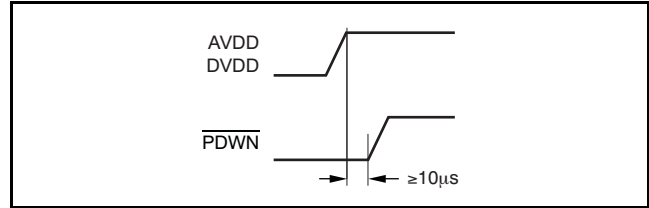
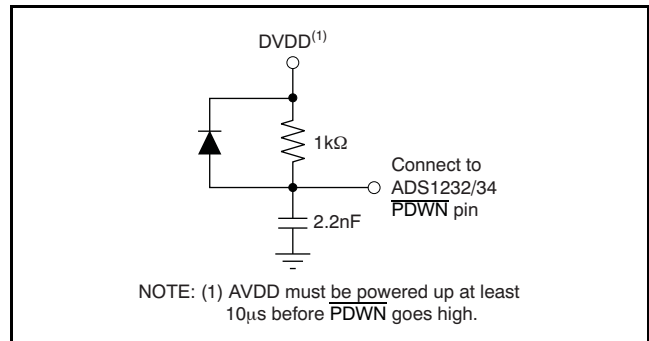

Figure 39. Power-Up Timing Sequence
Figure 40. RC Delay Circuit
When powering up the ADS1232/34, AVDD and DVDD must be powered up before the PDWN pin goes high, as shown in Figure 39. If PDWN is not controlled by a microprocessor, a simple RC delay circuit must be implemented, as shown in Figure 40.
- Added Power-Up Sequence section, with new text and two new figures (Figure 39 and Figure 40). 23